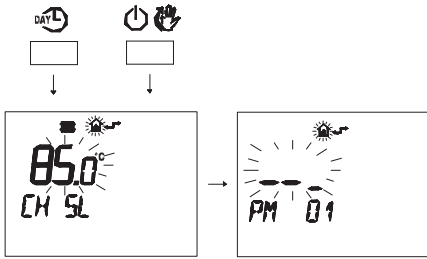

Fig. 8.19
- Press buttons **PAV** and **ON** at the same time to enter transparent programming (Fig. 8.19).